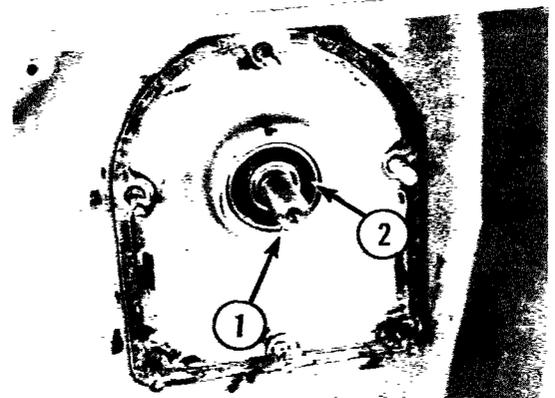
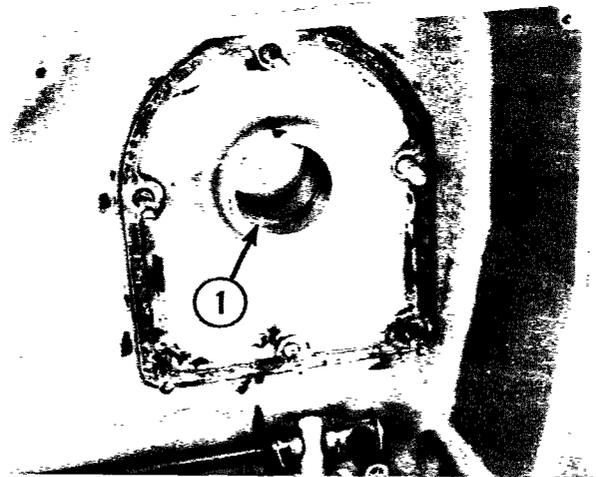

Fig. 2-38
Fig. 2-39
- (21) Remove the vertical bowl drive shaft (1, Fig. 2-38).
- (22) Remove the upper bearing from the top of the housing and the lower bearing from the bottom.
- (1) Check for the upper and lower retaining rings being installed (1, Fig. 2-39).
- (2) Install the upper bearing in the casing.
- (3) Install the bowl support shaft in the casing.
- (4) Press the lower bearing (2, Fig. 2-38) on the shaft until it is seated.